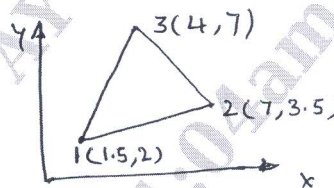

Fig.Q.3(a)
- 3 a. Determine the Jacobian of the transformation ' J ' for a triangular element shown in Fig.Q.3(a). (06 Marks)